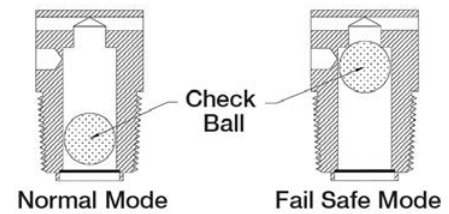

Fig. 4-82
- d) The vent-limiting orifice (Fig. 4-82) is a fail-safe device that permits free air movement above the diaphragm during normal operation. In the unlikely event of a diaphragm rupture, the vent limiting orifice will limit gas escapement to 1.0 CFH natural gas at 2 PSI and 0.65 CFH LP at 2 PSI. Both values are below the ANSI standard of 2.5 CFH. Note: The vent-limiting orifice does not allow gas to escape to the environment during operation.